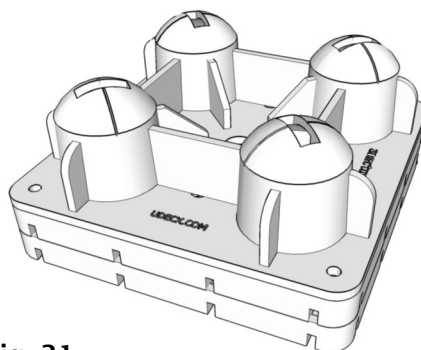
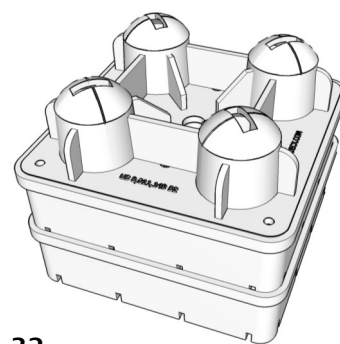

Fig. 31
Fig. 32
14. **DO NOT** place more than two 1" Shims (G) (Fig. 31) or two 3" Risers (H) below any Pier (A). (Fig. 32)